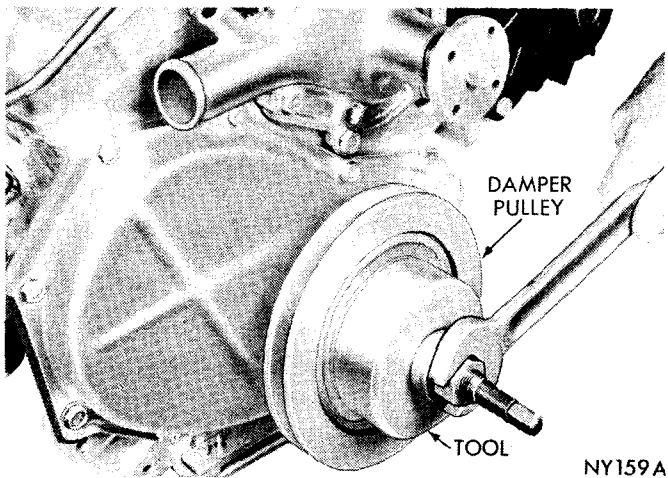

Fig. 20—Installing Vibration Damper Assembly
(1) Be sure mating surfaces of chain case cover and cylinder block are clean and free from burrs.
(2) Using a new gasket carefully install chain case cover to avoid damaging oil pan gasket. Tighten chain case cover capscrews to 30 foot-pounds first then tighten oil pan capscrews to 200 inch-pounds.
(3) Lubricate seal lip with lubriplate, position vibration damper hub slot on key in crankshaft, and slide on crankshaft.
(4) Place installing tool, part of Puller set Tool C-3688 in position and press vibration damper on crankshaft (Fig. 20).